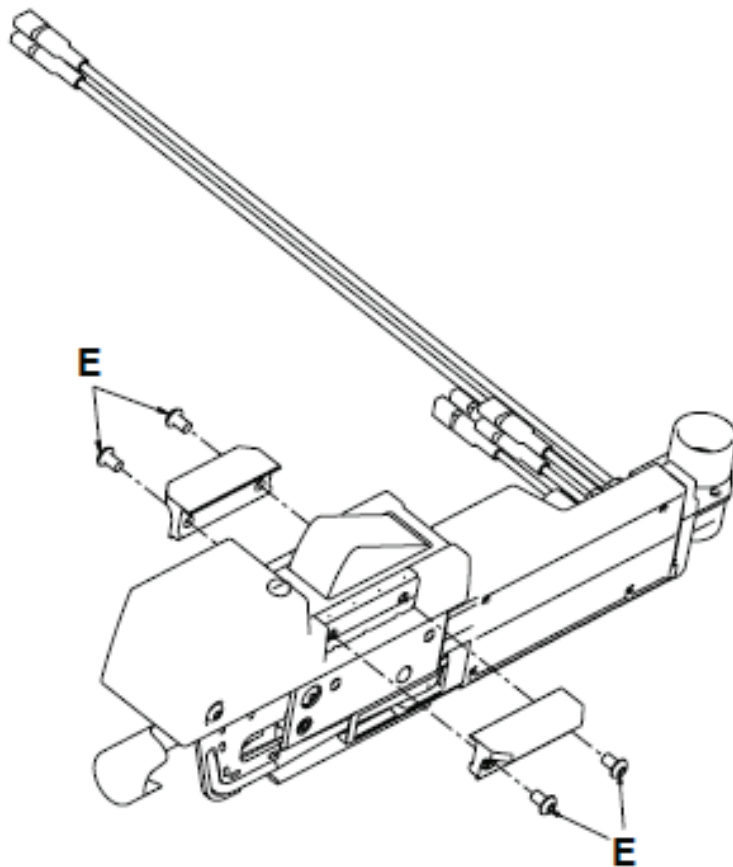

Figure 45 – Remove the retainer wings
11. Using a T25 Torx driver, remove the four button head cap screws (E) that secure the two retainer wings and remove the retainer wings (Figure 45). Save all parts.